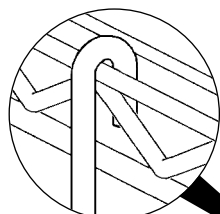

figure 8
- Hook the rods where desired onto the outside of the top shelf (see figure 8).